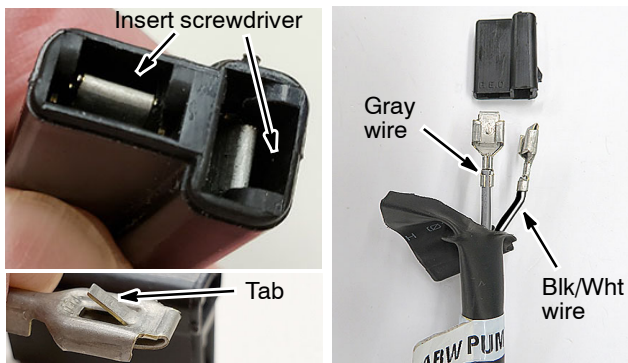

Fig. 13
b. Flip the position of the two wire terminals (blk/wht wire ↔ gray wire). To remove terminals, insert a small standard screwdriver into the connector to release the retaining tab (Figure 13).